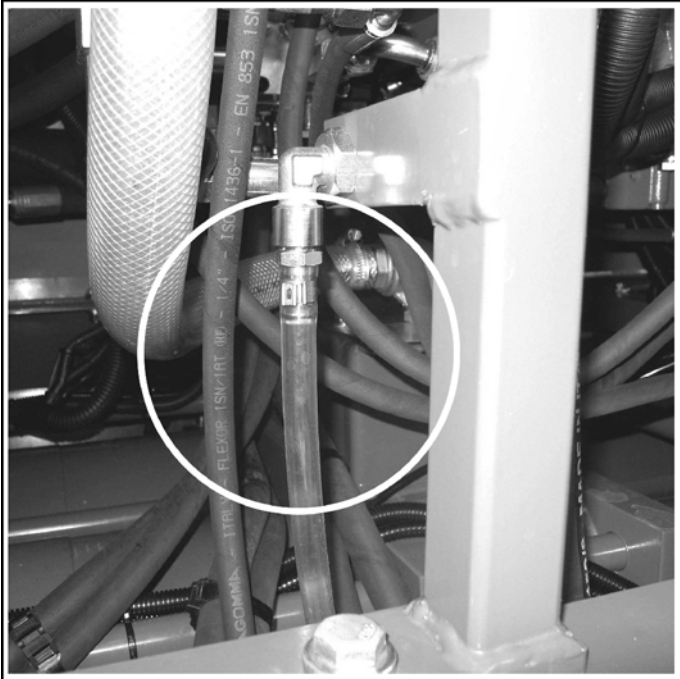

FIG.26
- Through the level pipe highlighted in figure, check there is water inside the bowl (FIG.26-REF.1).